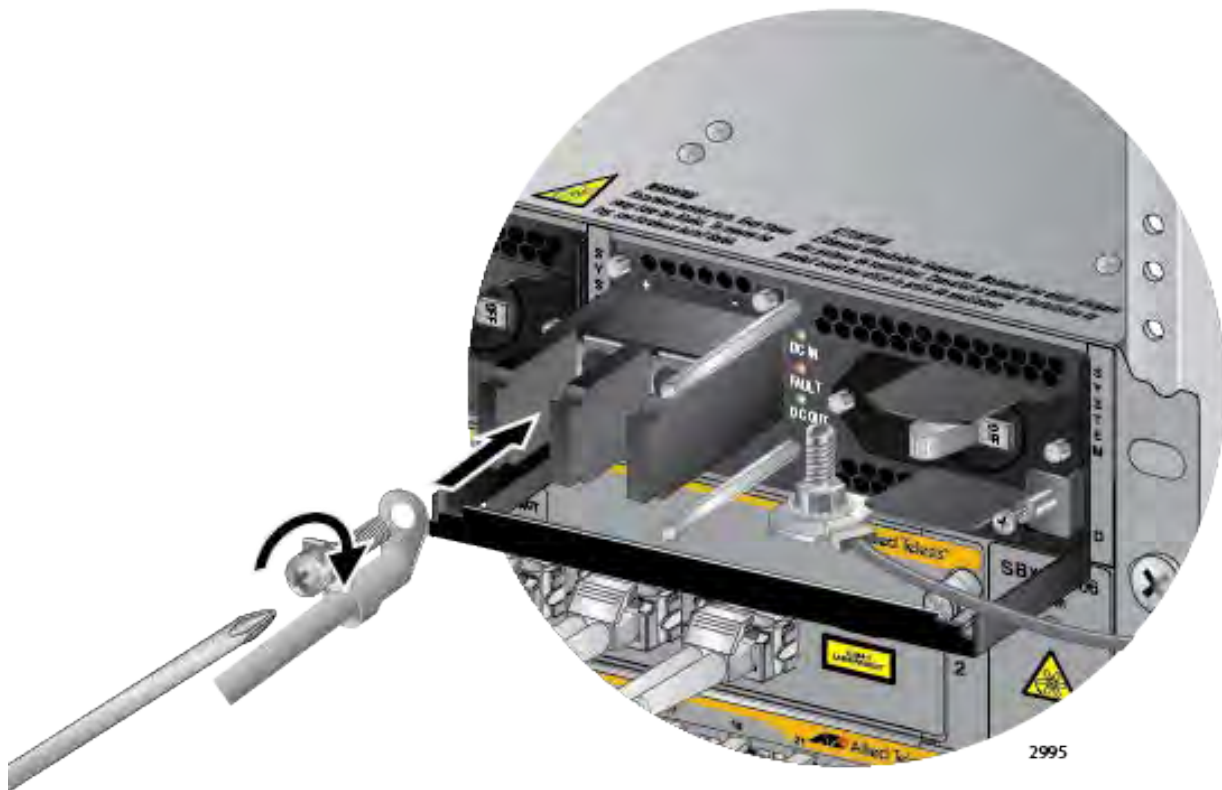

Figure 148. Connecting the Positive (+) Power Wire with a Right Angle Terminal
6. With a #3 Phillips-head screwdriver, connect the positive (+) power lead wire to the positive terminal on the power supply, with one of the terminal screws removed in the previous step. The positive terminal is on the left. Refer to Figure 148 on page 224.